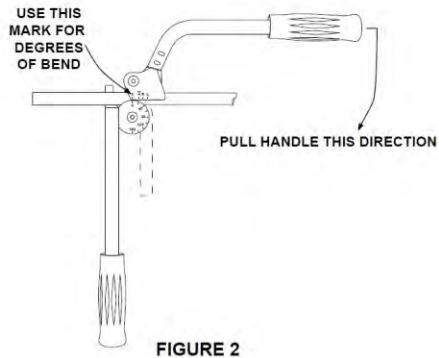

FIGURE 2
3. Lower the swivel handle to position shown. (Fig. 2)
5. Degree of bend is indicated by mark on form handle as shown in Fig. 2. Bends up to 180° can be made in one sweep of the handle.